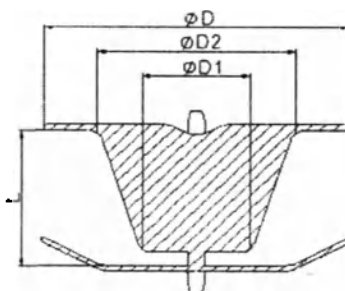

Figure 1 The KONAR-MF VSD Occluder
- The occluders are available in the following (Figure 1 & Table 1).